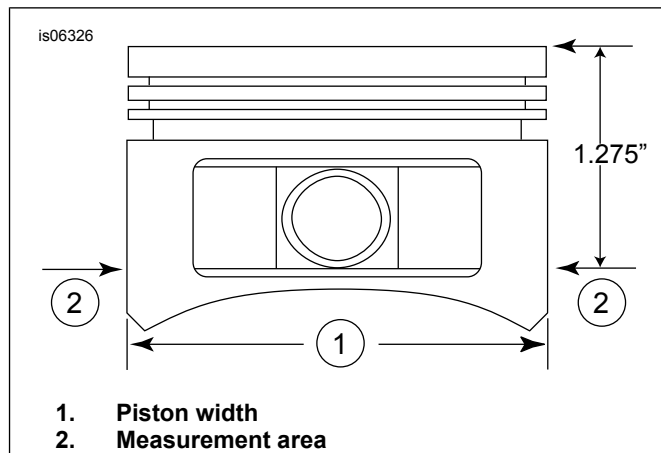

Figure 2. Piston Measurements
5. See Figure 2. Measure the piston width (1), 90 degrees horizontally from both sides of the piston pin hole and 1.275 in down from the deck surface (top) of the piston (2). See Table 6 for piston-to-cylinder fit at this location.